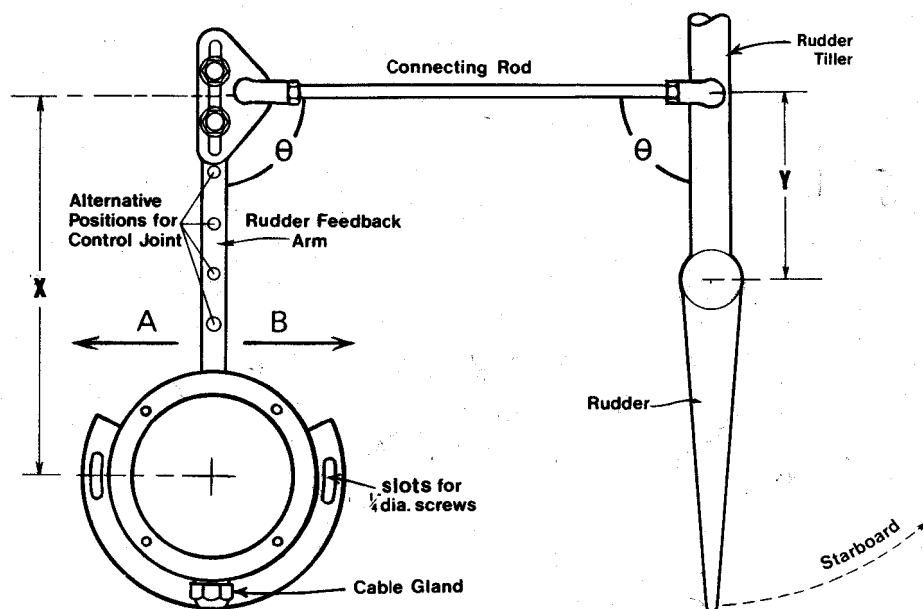

FIG. 14 RUDDER FEEDBACK UNIT
When first installed the connecting rod should be set up so that length 'X' is approximately twice length 'Y'. See Figure 14. Where space permits, it is convenient for the layout to be as shown in Figure 14, but if necessary the unit may be mounted upside down, or so that the tiller/quadrant and feedback arm 'face' each other.
**6.2 WIRING UP THE RUDDER FEEDBACK UNIT.** (Systems using the Electric Drive Unit, driving Mechanical or Hand Hydraulic Steering Gear.) There are 4 combinations of feedback arm movement (referred to as direction A or B – see Fig. 14) and drive unit output shaft rotation as viewed from its exposed end, for a given direction of rudder:—